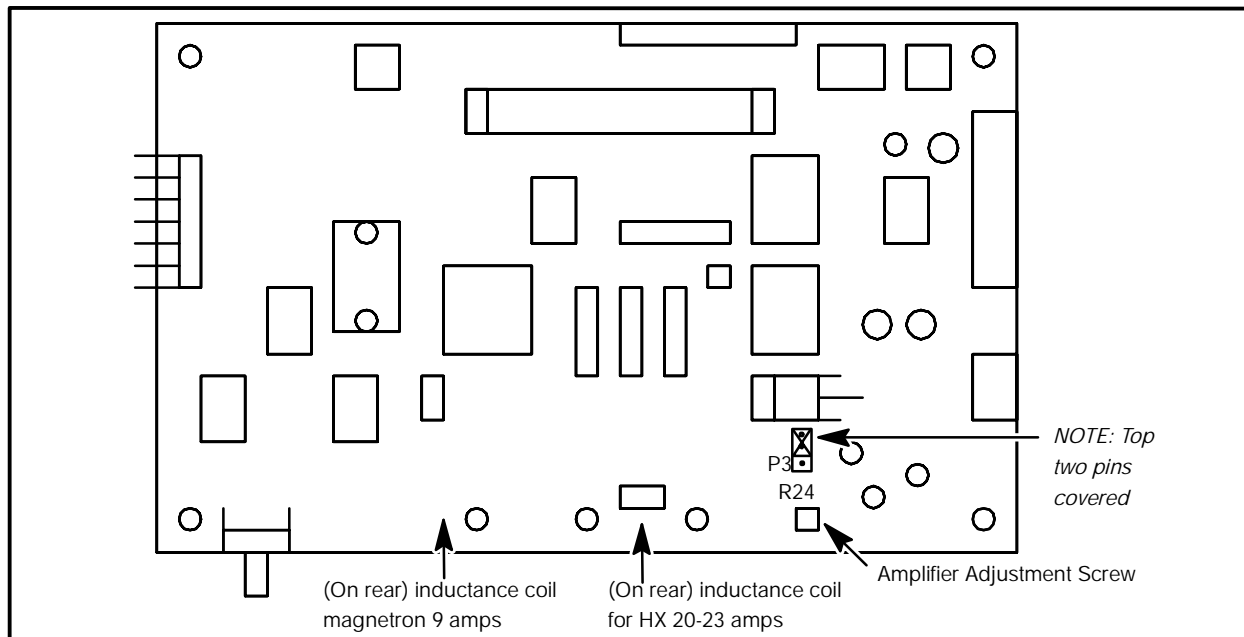

FIGURE 5
3. Press and hold the MGTRON key. Observe the reading on the keypad display. Adjust the amplifier gain on R24 on I/O controller board. Refer to FIGURE 5. Turn the screw clockwise to reduce the output until the maximum reading is 120 ± 20 .